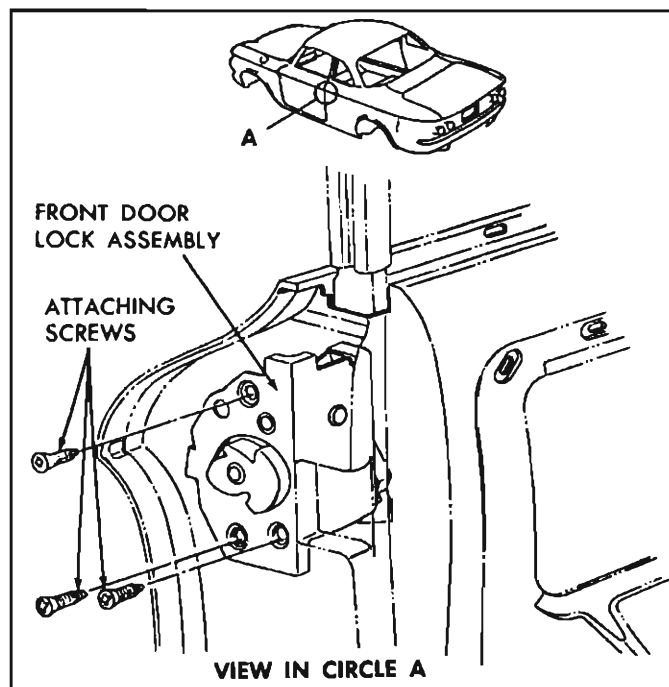

Fig. 12—Front Door Lock Assembly
3. Remove three screws securing lock to door lock pillar panel and remove lock through door inner panel access hole (fig. 12).